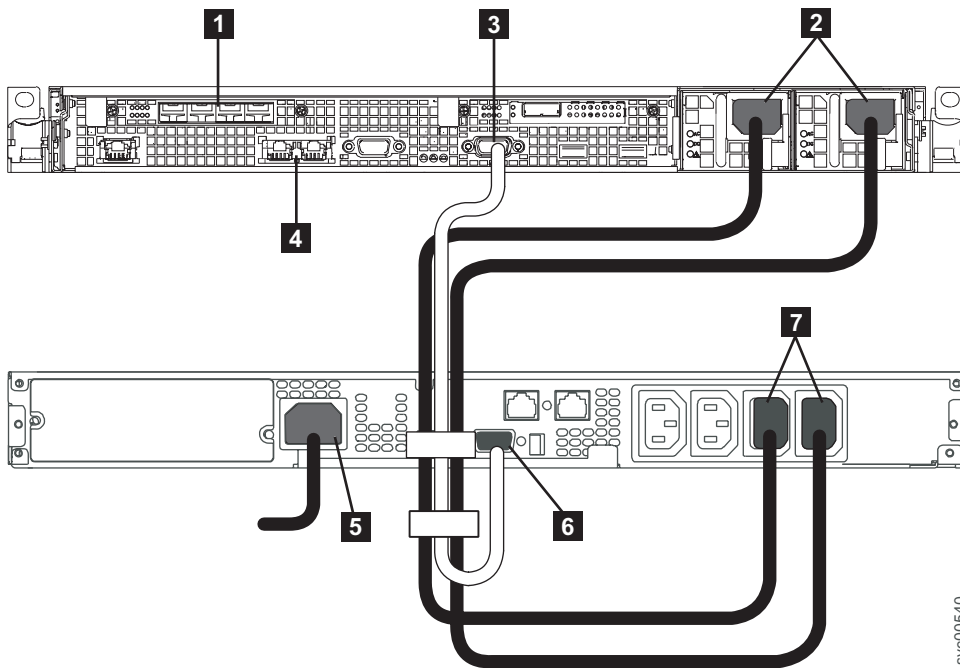

Figure 32. Connecting the SAN Volume Controller power cable to the 2145 UPS-1U
1. At the back of the SAN Volume Controller 2145-CG8 node, plug the power cables of the combined power and serial cable assembly into the power connector **2**, as shown in Figure 32.